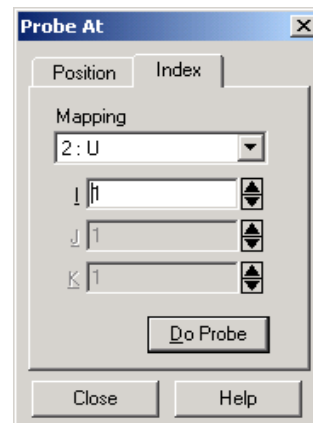

Figure 25-3. Index page of the Probe At dialog.
2. Click the Index button (Index tab in Windows) to bring up the Index page of the Probe At dialog, shown in Figure 25-3.